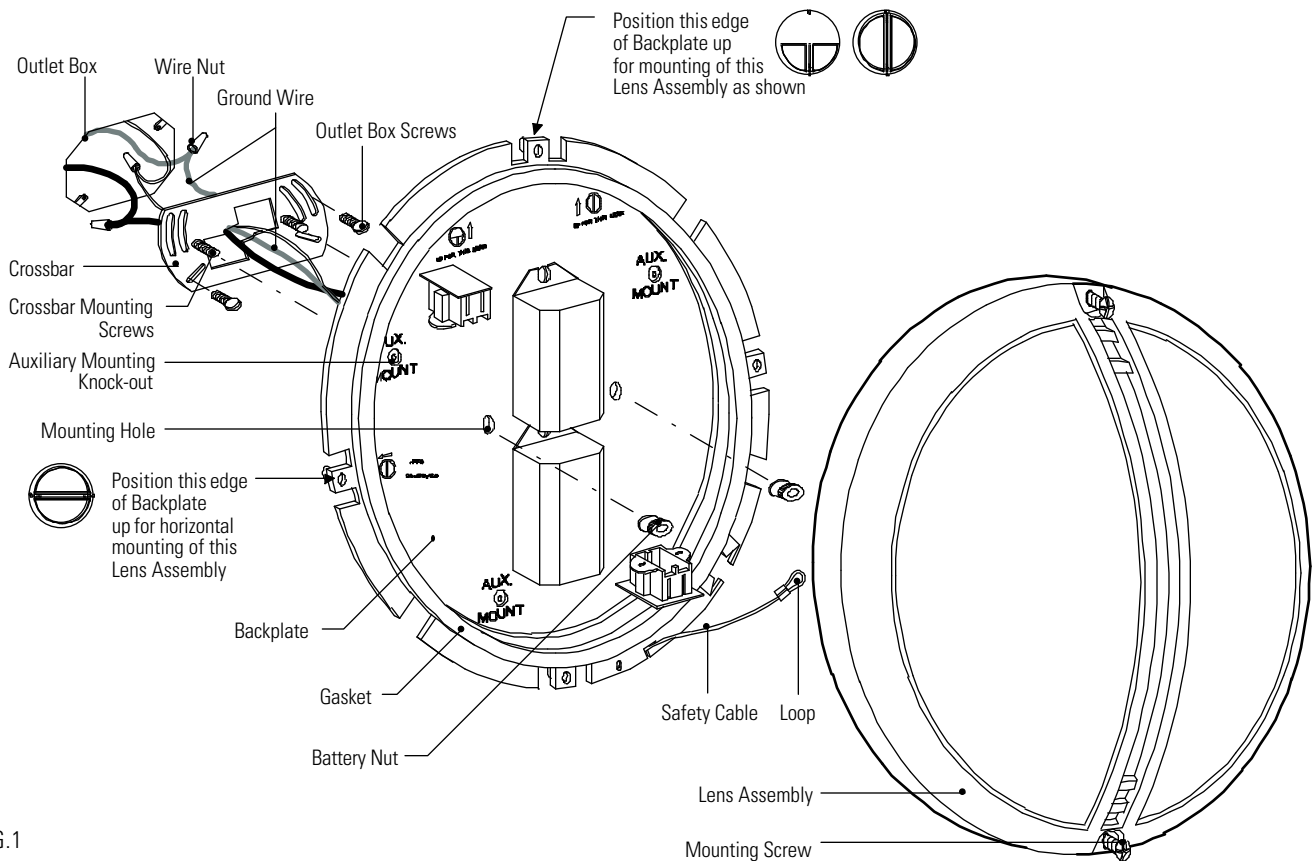

FIG.1
The **Backplate** can be mounted horizontally or vertically. See Fig 1 below for proper orientation for type of **Lens Assembly** and desired position.
1. Position blunt ended punch or awl in center of **Knockout** hole and firmly hit with hammer to punch plug through. Repeat for remaining **Knockouts** (Fig. 1).
2. Position **Backplate** in desired position over **Outlet Box** and mark location of (4) **Auxiliary Holes** on wall surface.
4. Thread **Crossbar Mounting Screws** into **Crossbar** as shown in Fig. 1.
11. Position **Lens Assembly** over **Backplate** making certain the **Safety Cable** does not interfere with the **Gasket** (fig. 1).
12. Secure **Lens Assembly** in place by tightening the (2) **Mounting Screws** on the face of **Lens Assembly**.